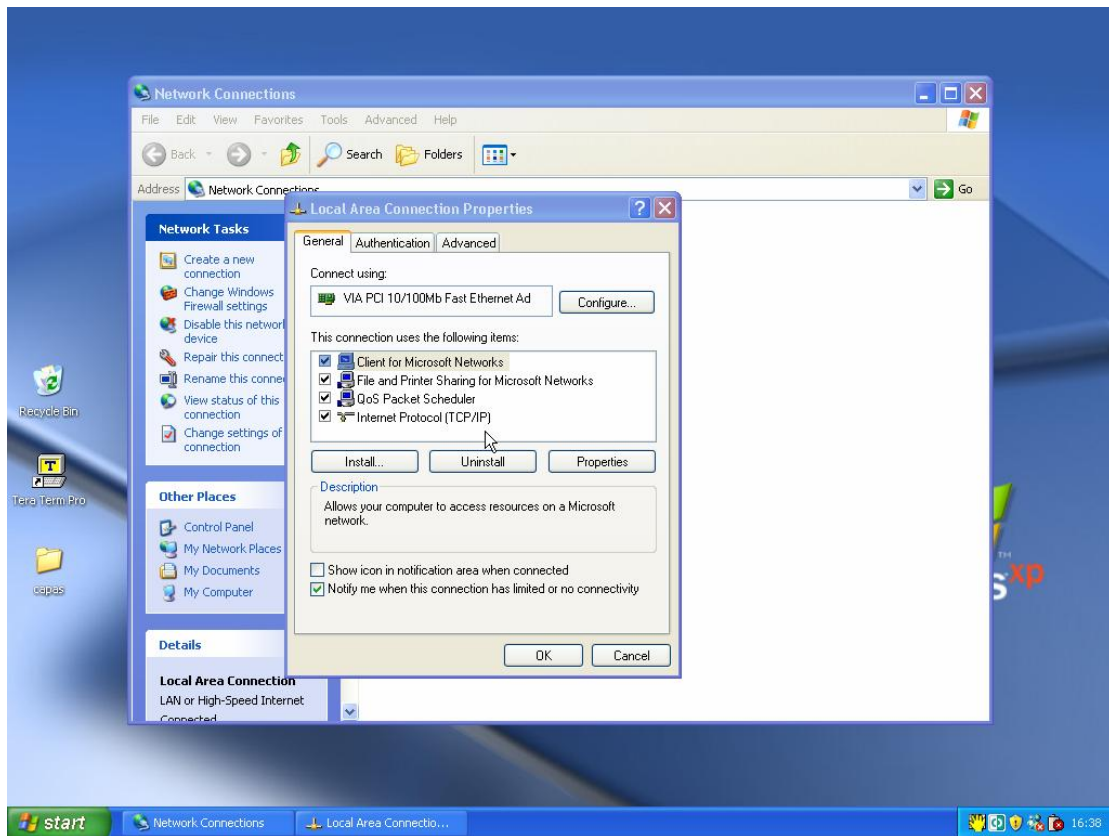

Figure 3-3. Local Area Connection Properties window.
- 3) **<Right Click>** on Local Area Connection and click on **Properties**. This will open the Local Area Connection Properties window as shown in Figure 3-3.